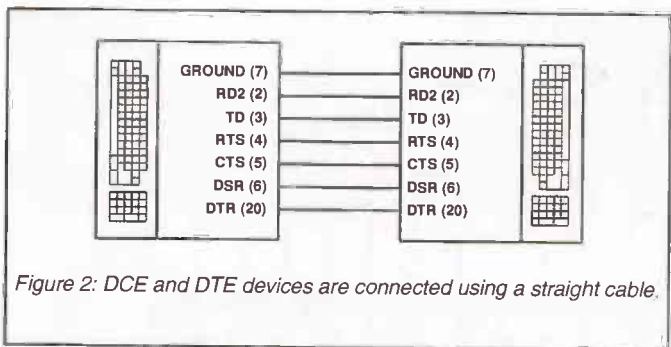

Figure 2: DCE and DTE devices are connected using a straight cable.
It is usually possible to tell which category a particular device falls into by looking at the 25 way D connector. If it is a plug, the unit is probably a DTE device - if it has a socket it is probably a DCE device. This is not a completely reliable method though, and many printers have a 25 way D socket but are actually examples DTE equipment. The difference between these two types of equipment is simply that DTE devices transmit data on pin 2 (TX), and receives it on pin 3 (RX). In other words, DTE equipment has a normal serial interface. DCE devices transmit data on pin 3 and receive it on pin 2. They have handshake lines which operate in the same topsy-turvy fashion, with inputs that are actually outputs, and vice-versa. The point of all this is that it enables a 'straight' lead to be used to connect a DTE unit to a DCE device. In other words, each pin on one connector is coupled to exactly the same pin on the other connector. Figure 2 shows this method of connection.